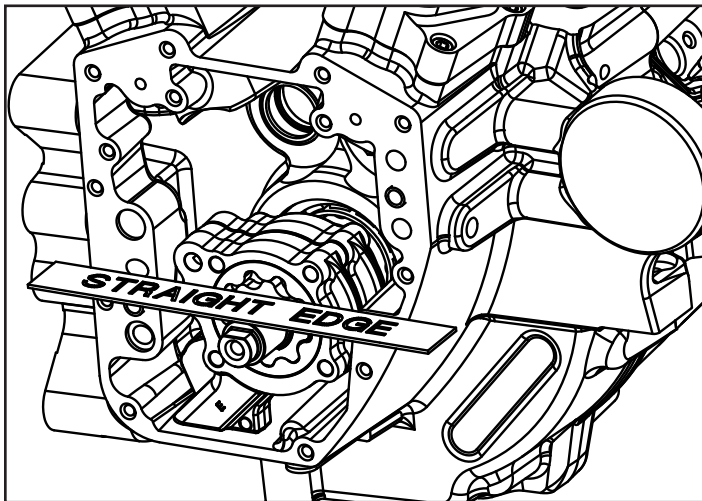

Figure 5
18. Place straight edge across front of cam chest and make sure the face of the pump does not protrude past the cam chest gasket surface. **Figure 5**